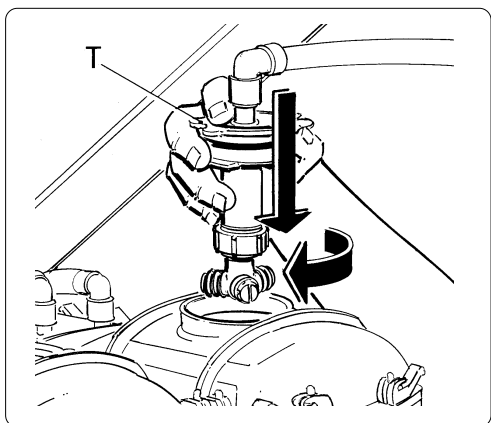

Fig. 17
- Mount the cap (T) already fitted with CIP system and the relative hose for attachment to the water mains (fig.17).